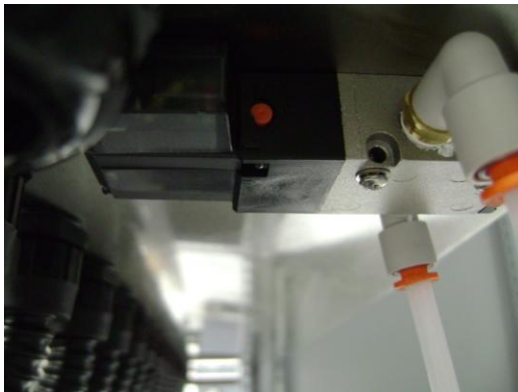

Figure 7-2: Solenoid Valve
- Draining the system without power requires manual activation of the fluid inlet shut off valve by pressing the orange button on the air solenoid valve. Air pressure is required. (see Figure 7-2)